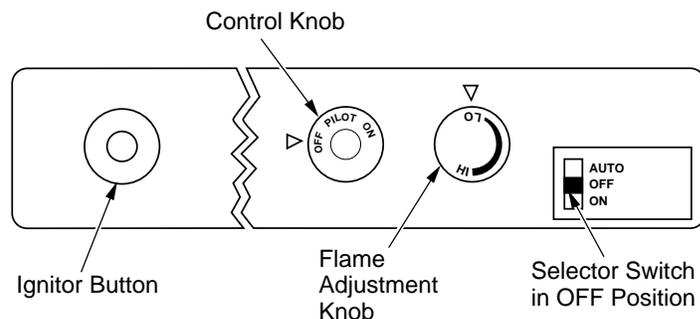

Figure 28 - Control Knob and Ignitor Button Location
4. Press in and turn control knob clockwise  to the OFF position (see Figure 28).
5. Wait five (5) minutes to clear out any gas. Then smell for gas, including near the floor. If you smell gas, **STOP!** Follow "B" in the safety information, starting in column 2, page 18. If you don't smell gas, go to the next step.
6. Press in and turn control knob counterclockwise  to the PILOT position. Press in control knob for five (5) seconds (see Figure 28).